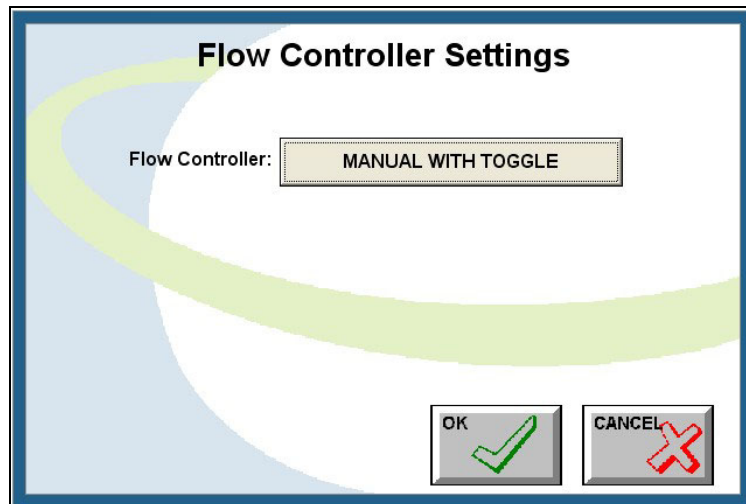

Figure 6-7: Flow Controller Settings Window
- 5) Touch the **FLOW CONTROLLER** button as shown in Figure 6-7.